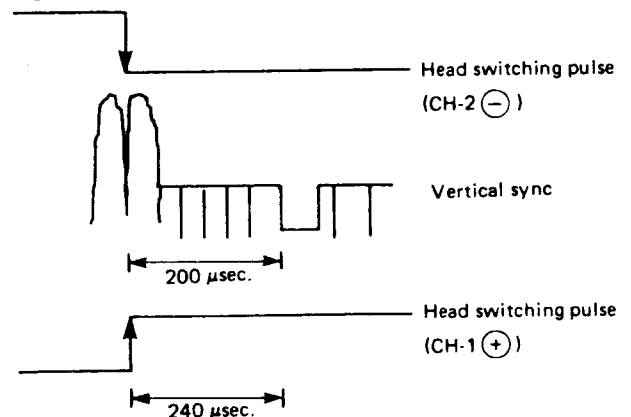

Figure 2-8.
3. Observe the output of TP701 (head switching pulse) and video output with an oscilloscope, and adjust R7038 (3H slow/still FV sync. control) so that the output level is shown in Fig. 2-8.
3. Observe the output of TP701 (head switching pulse) and video output with an oscilloscope, and adjust R7039 (2H slow/still FV sync. control) so that the output level is as shown in Fig. 2-8.